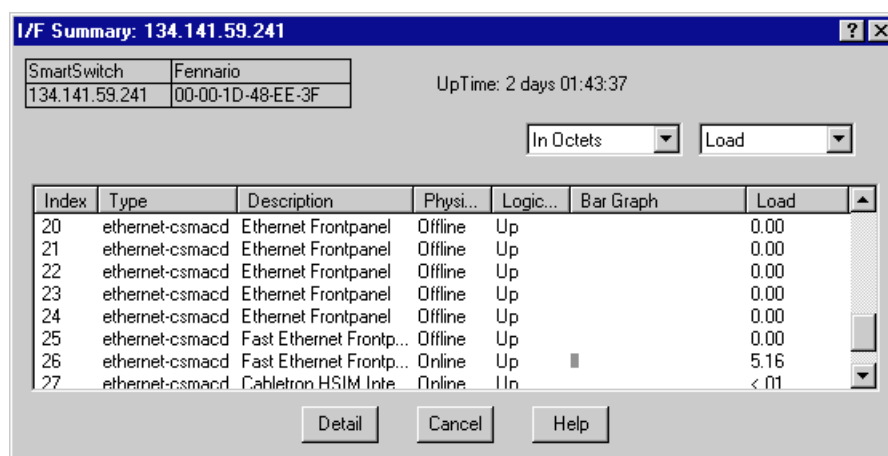

Figure 2-8. The I/F Summary Window
2. Click again to select **I/F Summary**. The I/F Summary window, Figure 2-8, opens.